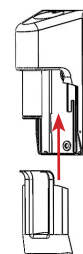

FIGURE 2.7 - Inner Cover
- STEP 12:** Reinstall the inner plastic cover. Refer to FIGURE 2.7